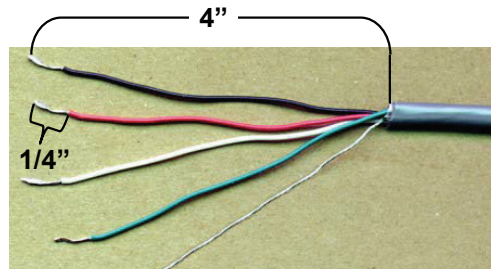

Figure No. 3
4. Referring to Figure No. 3, remove 4 inches of the outer insulation jacket.